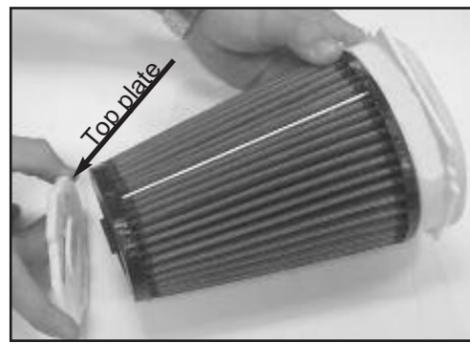

Fig. 4
8. Install the plastic top plate onto the top of the K&N Filtercharger[®]. (Fig. 4)